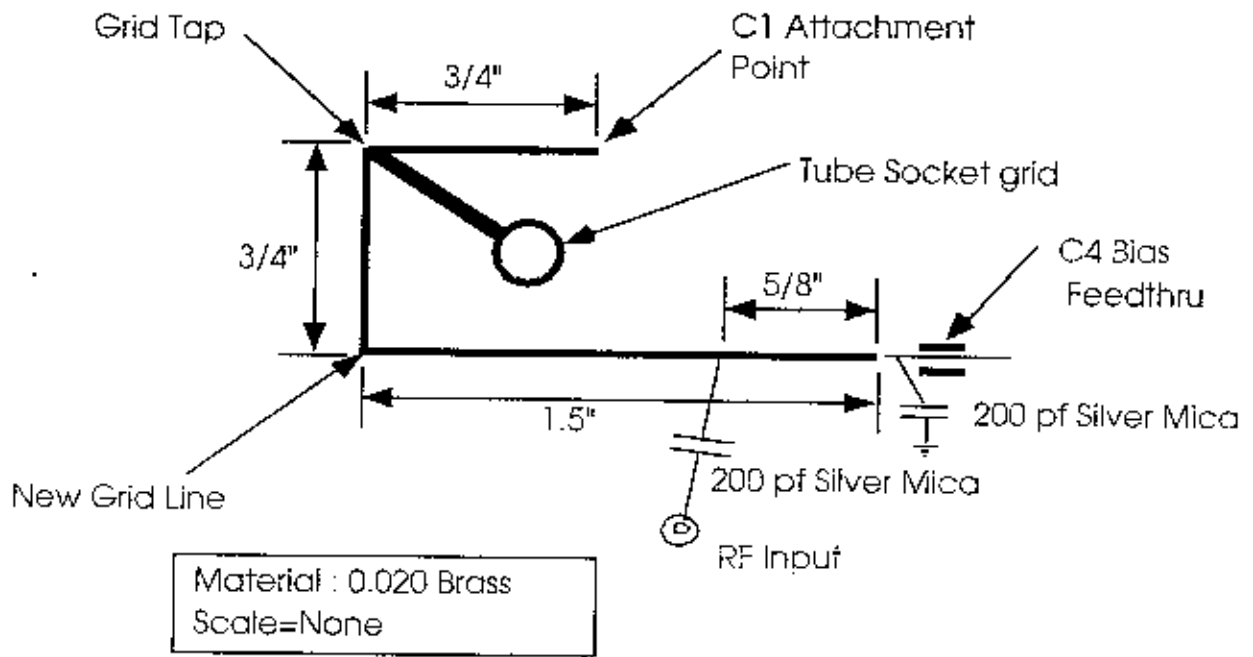
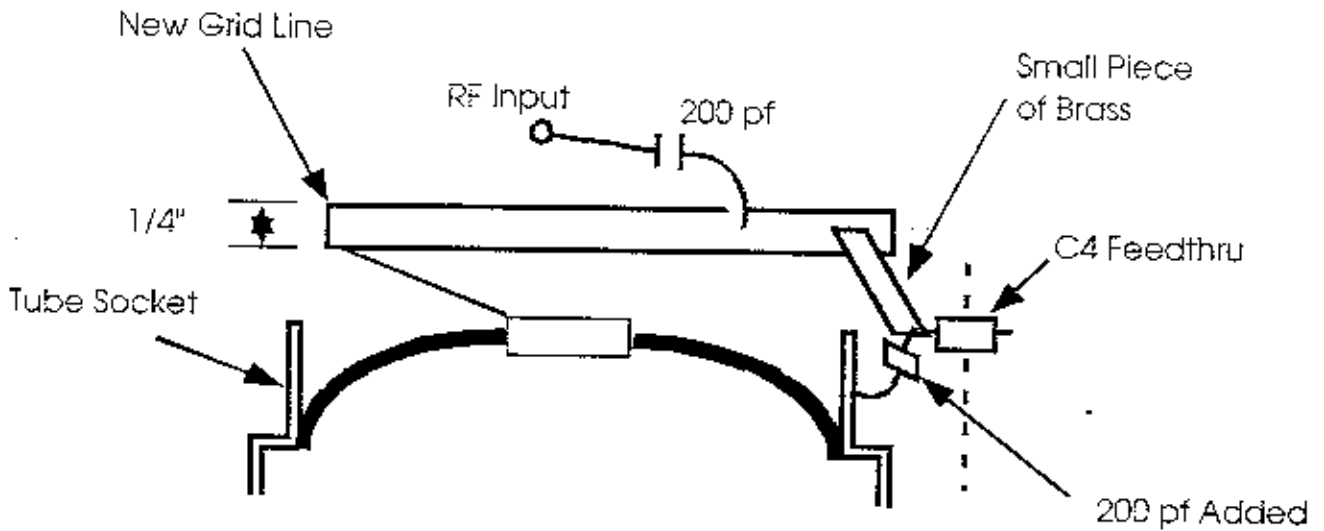

Figure 1. New Grid Line - Top Vie w
Figure 2. New Grid Line - Side Vie w
9. Cut out the new grid line and bend to shape according to Figure 1 and Figure 2. Nothing is really critical here so don't spend a lot of time agonizing over the dimensions. Things can be fitted and trimmed as necessary when installing.
10. Position the new grid line inside the grid compartment level with the tab on C1 and solder at three points: the grid bias feed through capacitor (C4), the tuning capacitor (C1) and to the tapped connection from the grid line to the tube grid connection. The C4 and grid tap connections are made with small strips of brass material. Install another 200pf silver mica from the RF input to the tap point on the line. See Figure 2.